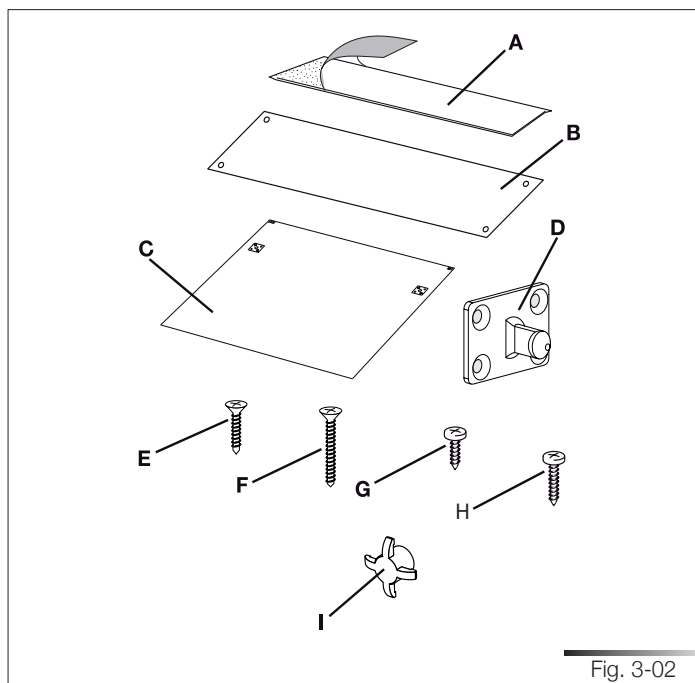

Fig. 3-02
- 1 adhesive steam guard (depending on the model) (ref. A fig. 3-02);
- 1 steel steam guard (depending on the model) (ref. B fig.3-02)\*;
- 1 template for door panel (ref. C fig. 3-02);
- 2 hooks for door panel (ref. D fig. 3-02);
- 8 screws for securing the door panel hooks (ref. E fig. 3-02);
- 2 screws for securing the door (ref. F fig. 3-02);
- 4 screws for fixing the dishwasher to the adjacent walls (ref. G fig. 3-02);
- 2 upper fixing screws (ref. H fig. 3-02);
- 2 screw caps (ref. I Fig. 3-02);